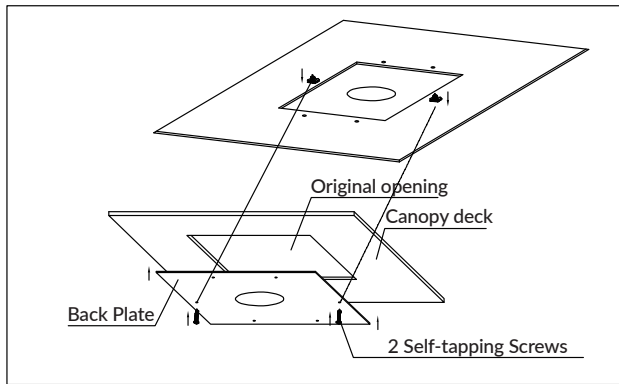

Figure 12
- Position the Back Plate and secure it temporarily using the 2 Self-tapping Screws and Spring Nuts. Tip: For thicker canopy, pre-drill a 13/64" pilot hole to penetrate easily. (Figure 12).